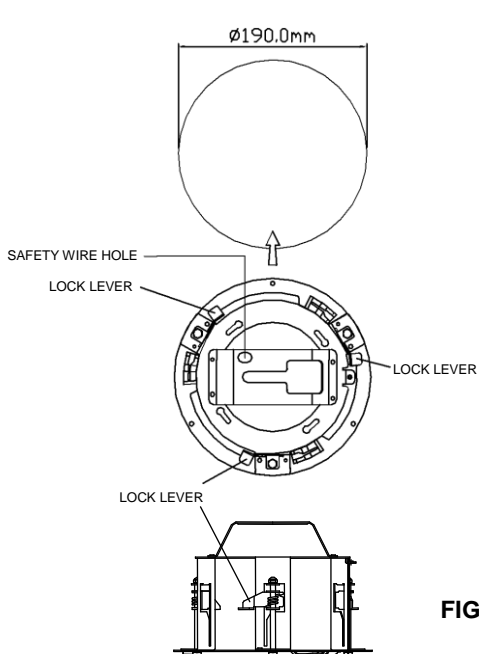

FIG. 6
1. Make a hole, 190mm, on the ceiling. (FIG. 6)